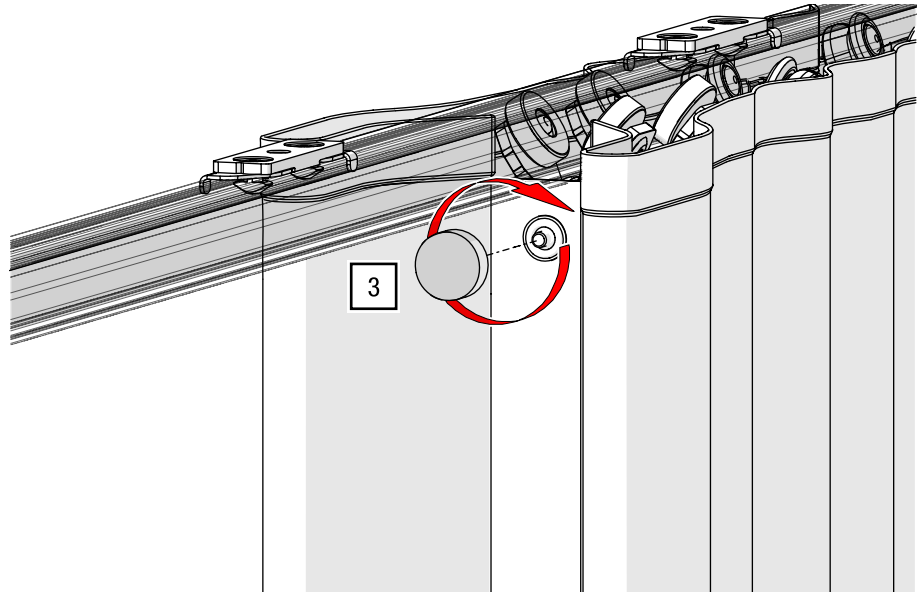

Fig. 117: Master runner with double overlap arm – Mount coupling magnet (1/2)
3. Screw the coupling magnet to the master runner with a double overlap arm hand-tight (see Fig. 117).